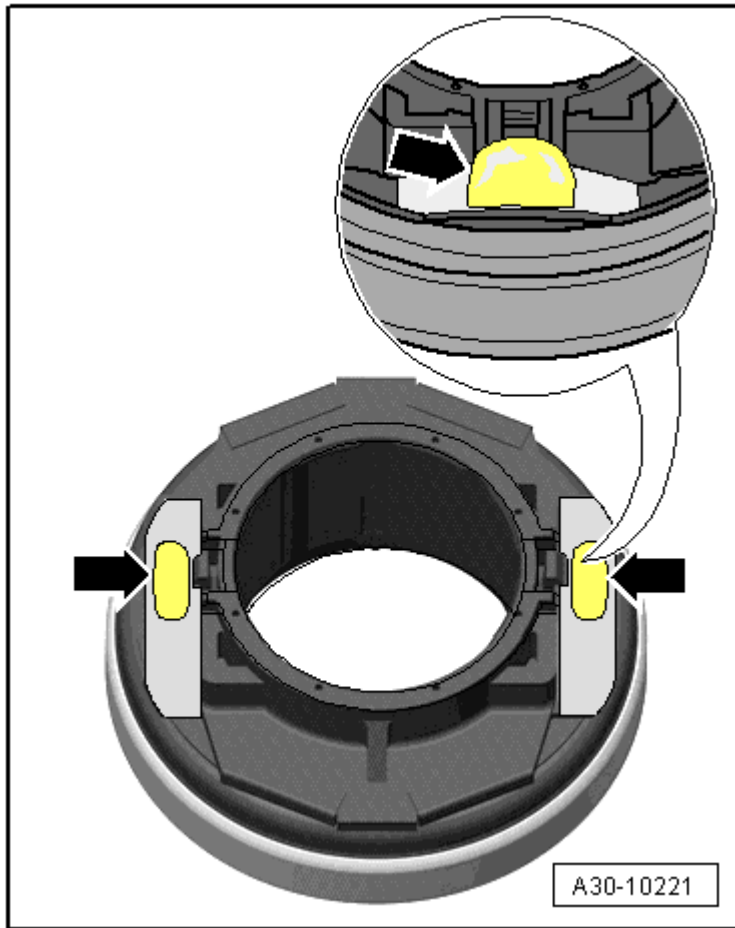

Fig. 18: Lubricating Release Bearing
NOTE: Coat the clutch release lever bearing area with adhesive lubricating paste G 000 150, refer to Fig. 18
- Lubricate the release bearing according to the specification. Refer to **Fig. 18**.